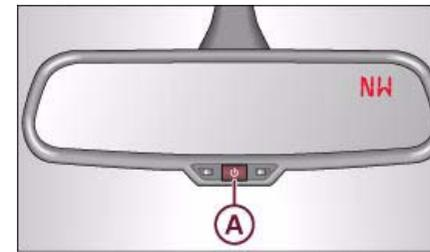

Fig. 60 Interior mirror: activated digital compass
- Press and hold button **(A)** ⇒ page 65, fig. 60 until the currently set zone number is displayed on the interior mirror.